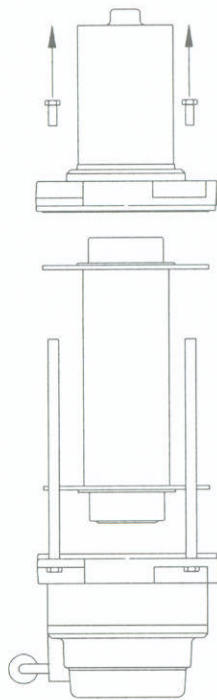

Figure 2.1
2. Stand the winch on the gear housing end (*Figure 2.1*). **NOTE:** Plastic sealing material may have to be peeled off to access parts on the motor end of the winch. Mark the three tie rod locations for easier re-assembly. Remove the motor end and drum by removing the three 3/8 inch tie rod bolts on the motor end. (If your winch is equipped with a wire rope tensioner, see Appendix 4.2 for removal and re-assembly.)
12. Set drum into seal and bushing. Insert hex drive shaft and motor coupler into drum and into engagement with coupler (*Figure 2.1*).
13. Install three motor end cap screws into tie rods. Torque all six cap screws to 18-22 ft. lb. (*Figure 2.1*).